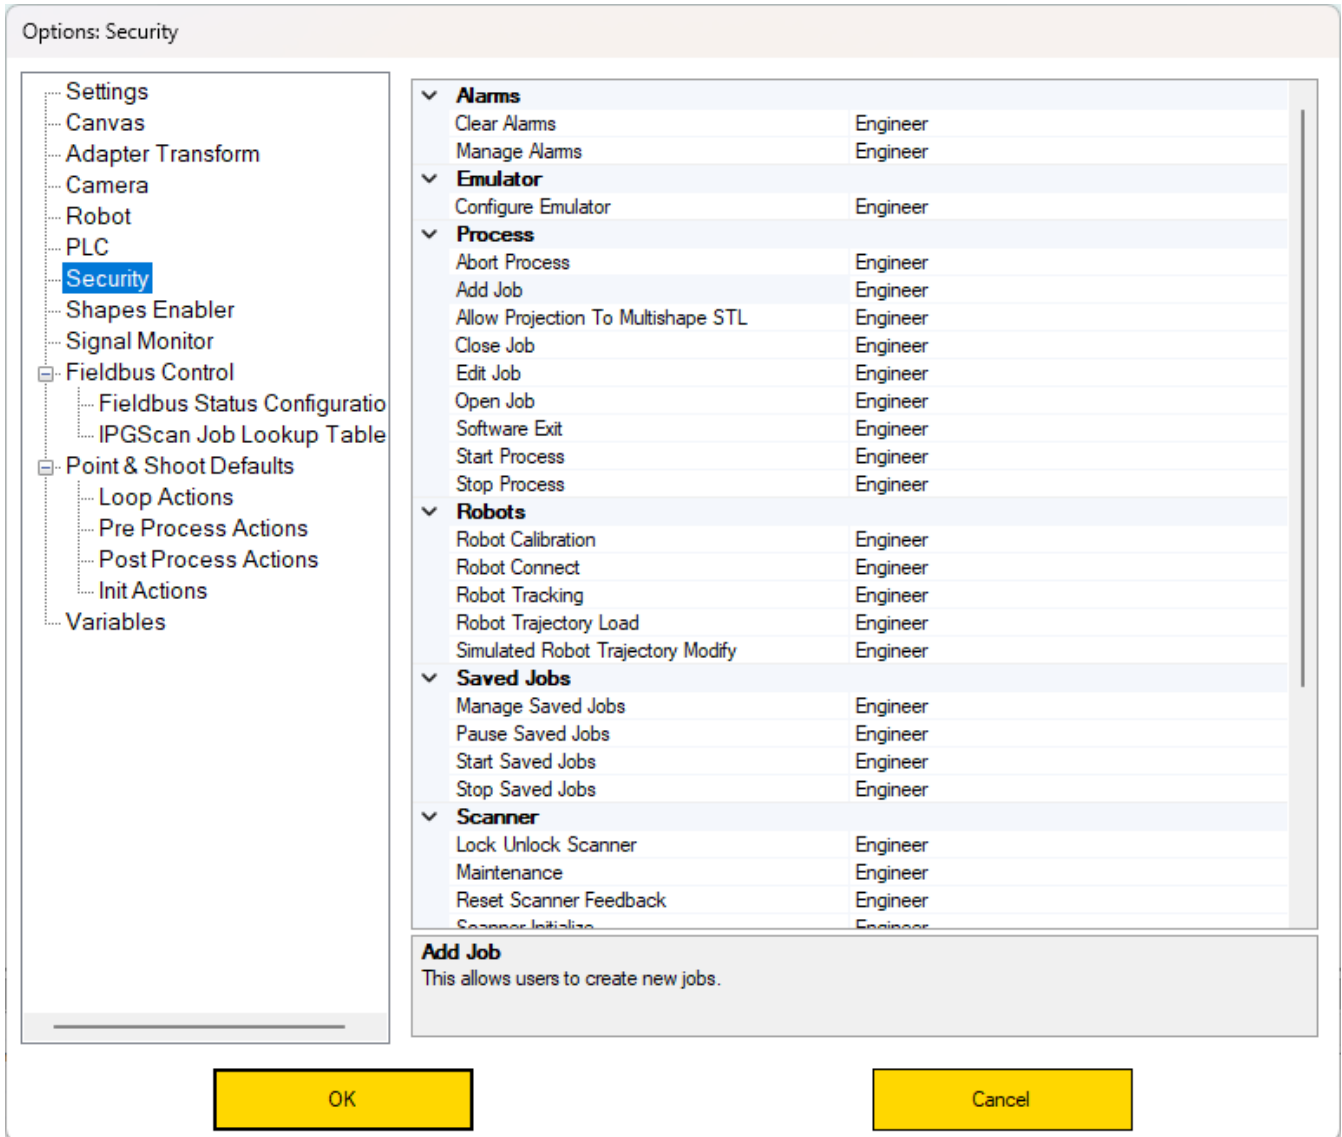

Figure 12: IPGScan Security Options
- a. In this window, users can define the permissions level that can perform given software functionality. See Figure 12 on page 34.